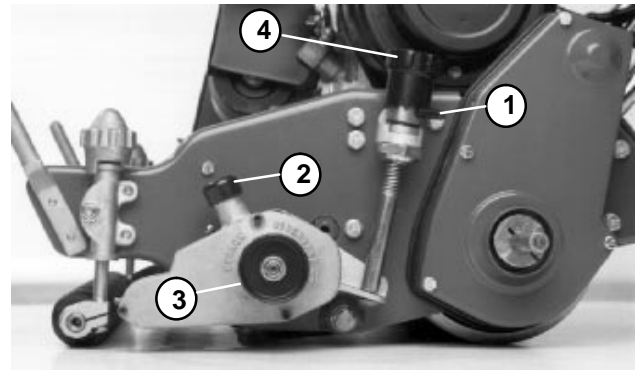

Figure 31
14. Check groomer assembly (Fig. 31).